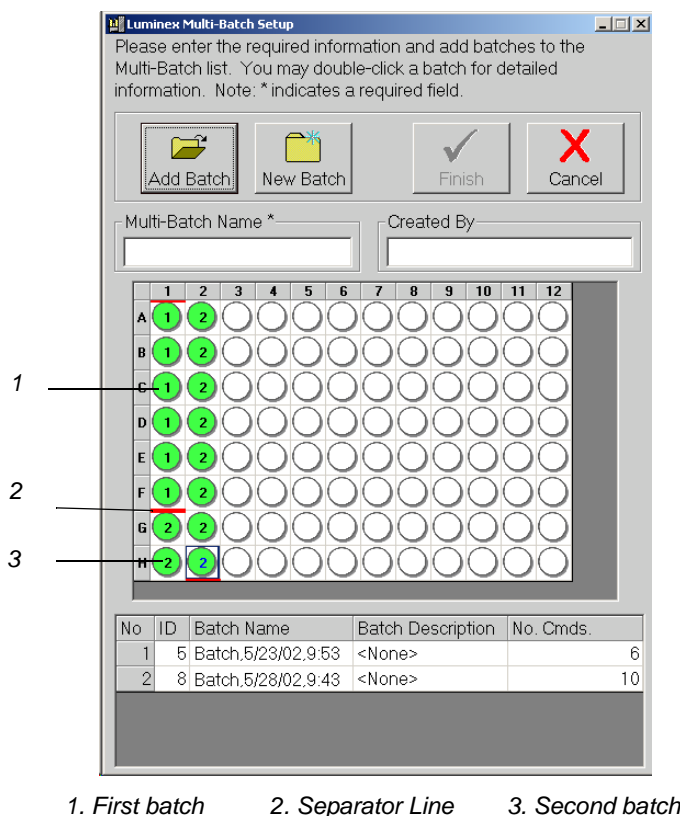

Figure 5-54 Selecting Multi-Batch Starting Data
- From the microtiter plate representation in the **Luminex Batch Setup** or **Luminex Multi-Batch Setup** dialog box, click the first well for sample acquisition. See Figure 5-54.